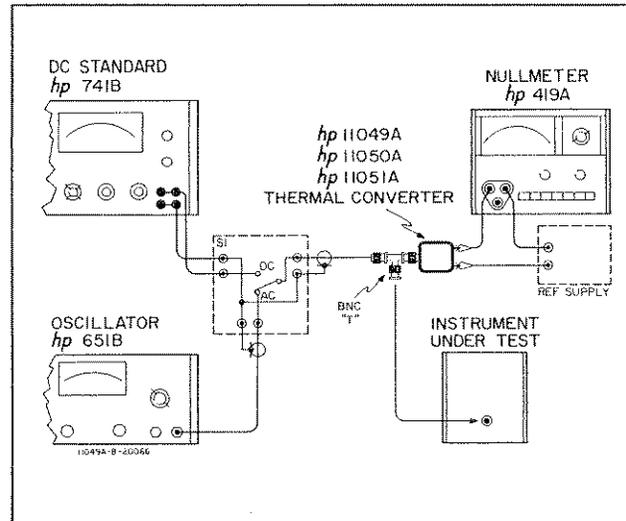

Figure 5. Test Signal Generation
17. The test setup in Figure 5 on the next page generates a test signal that may be used for both frequency response and absolute value calibration at any frequency within the thermal converter range. A dc standard acts as the absolute value reference, and a stable test oscillator generates the calibration signal. With S1 set to the DC position and the dc standard output set to the desired calibration voltage, the reference supply is adjusted for a null indication on the null meter. Then S1 is switched to AC, and the oscillator output is adjusted to reestablish a null indication. This sets the rms value of the oscillator output equal to the dc standard output. The oscillator output goes to the instrument under test.
- Connect dc standard, test oscillator, thermal converter, reference supply, null meter, and instrument under test as shown in Figure 5. Keep all connections as short as possible.
- Set switch S1 in Figure 5 to DC, and set dc standard output to +1.000 vdc.